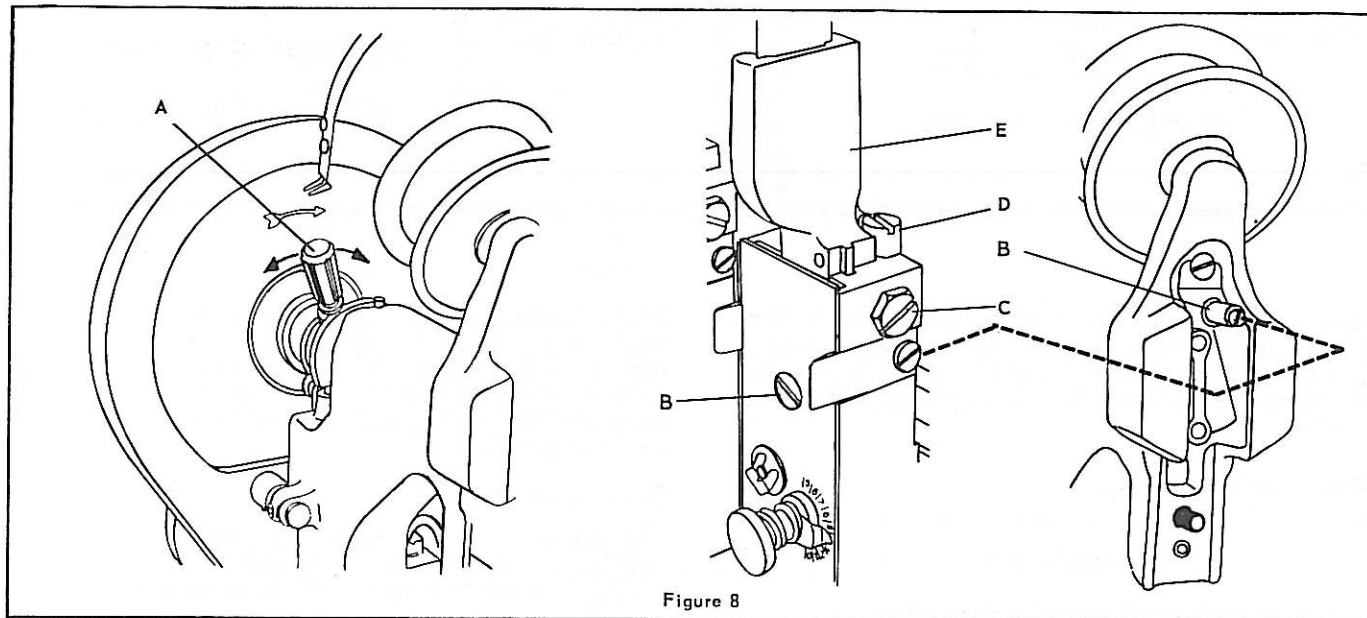

Figure 8
II On Models A, P, 450, 450A, 450T, wire draw and compression are adjusted simultaneously by gradually moving the eccentric adjusting sleeve handle (Index A, Figure 8) to the left for thin work, to the right for thick work. Extreme left for stitching 2 sheets of paper and extreme right for stitching work 1/4" in thickness.
1. Loosen set screw located on back of head (Index B1, Figure 8).
2. Turn the eccentric adjusting face plate screw (Index B, Figure 8) as needed until face plate is lowered proper amount—or vice versa if face plate is to be raised.
To Equalize Both Legs of Stitch: (Fig. 8)